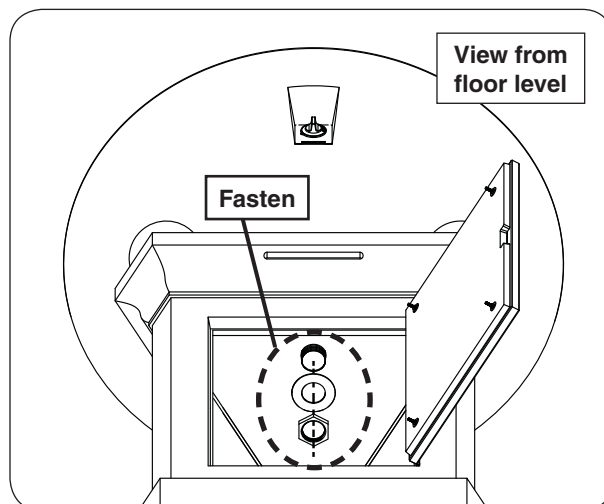

Fig. 28-2 Mount pedestal - fasten assembly
4. From within the pedestal, install the washer followed by the nut onto the conduit mount (that is protruding down into the pedestal). GENTLY tighten the 2 ³/₈" size nut using an adjustable wrench (or equivalent). See Fig. 28-2.